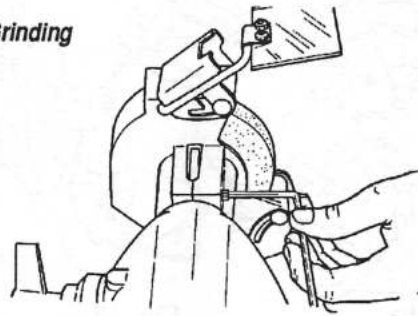

Fig. 22
23. Determine whether you want to use the Grinding Wheel Guard II for grinding or honing, as detailed in the Introduction. The type of wheel you have just mounted will also determine whether you grind or hone. For all power sources (Mark V, Power Station, etc...), the switch side of the machine is the **grinding** side. The **honing** side is on the side opposite the switch. Figs. 22 and 23 show the Grinding Wheel Guard II set up for grinding with the Mark V and Power Station, respectively. Figs. 24 and 25 show the set ups for honing.
24. Once you have placed the wheel guard opening according to the above, use a 5/32" Allen wrench to securely tighten the socket head cap screw (4) on the "neck" of the guard. See Figs. 22 - 25.